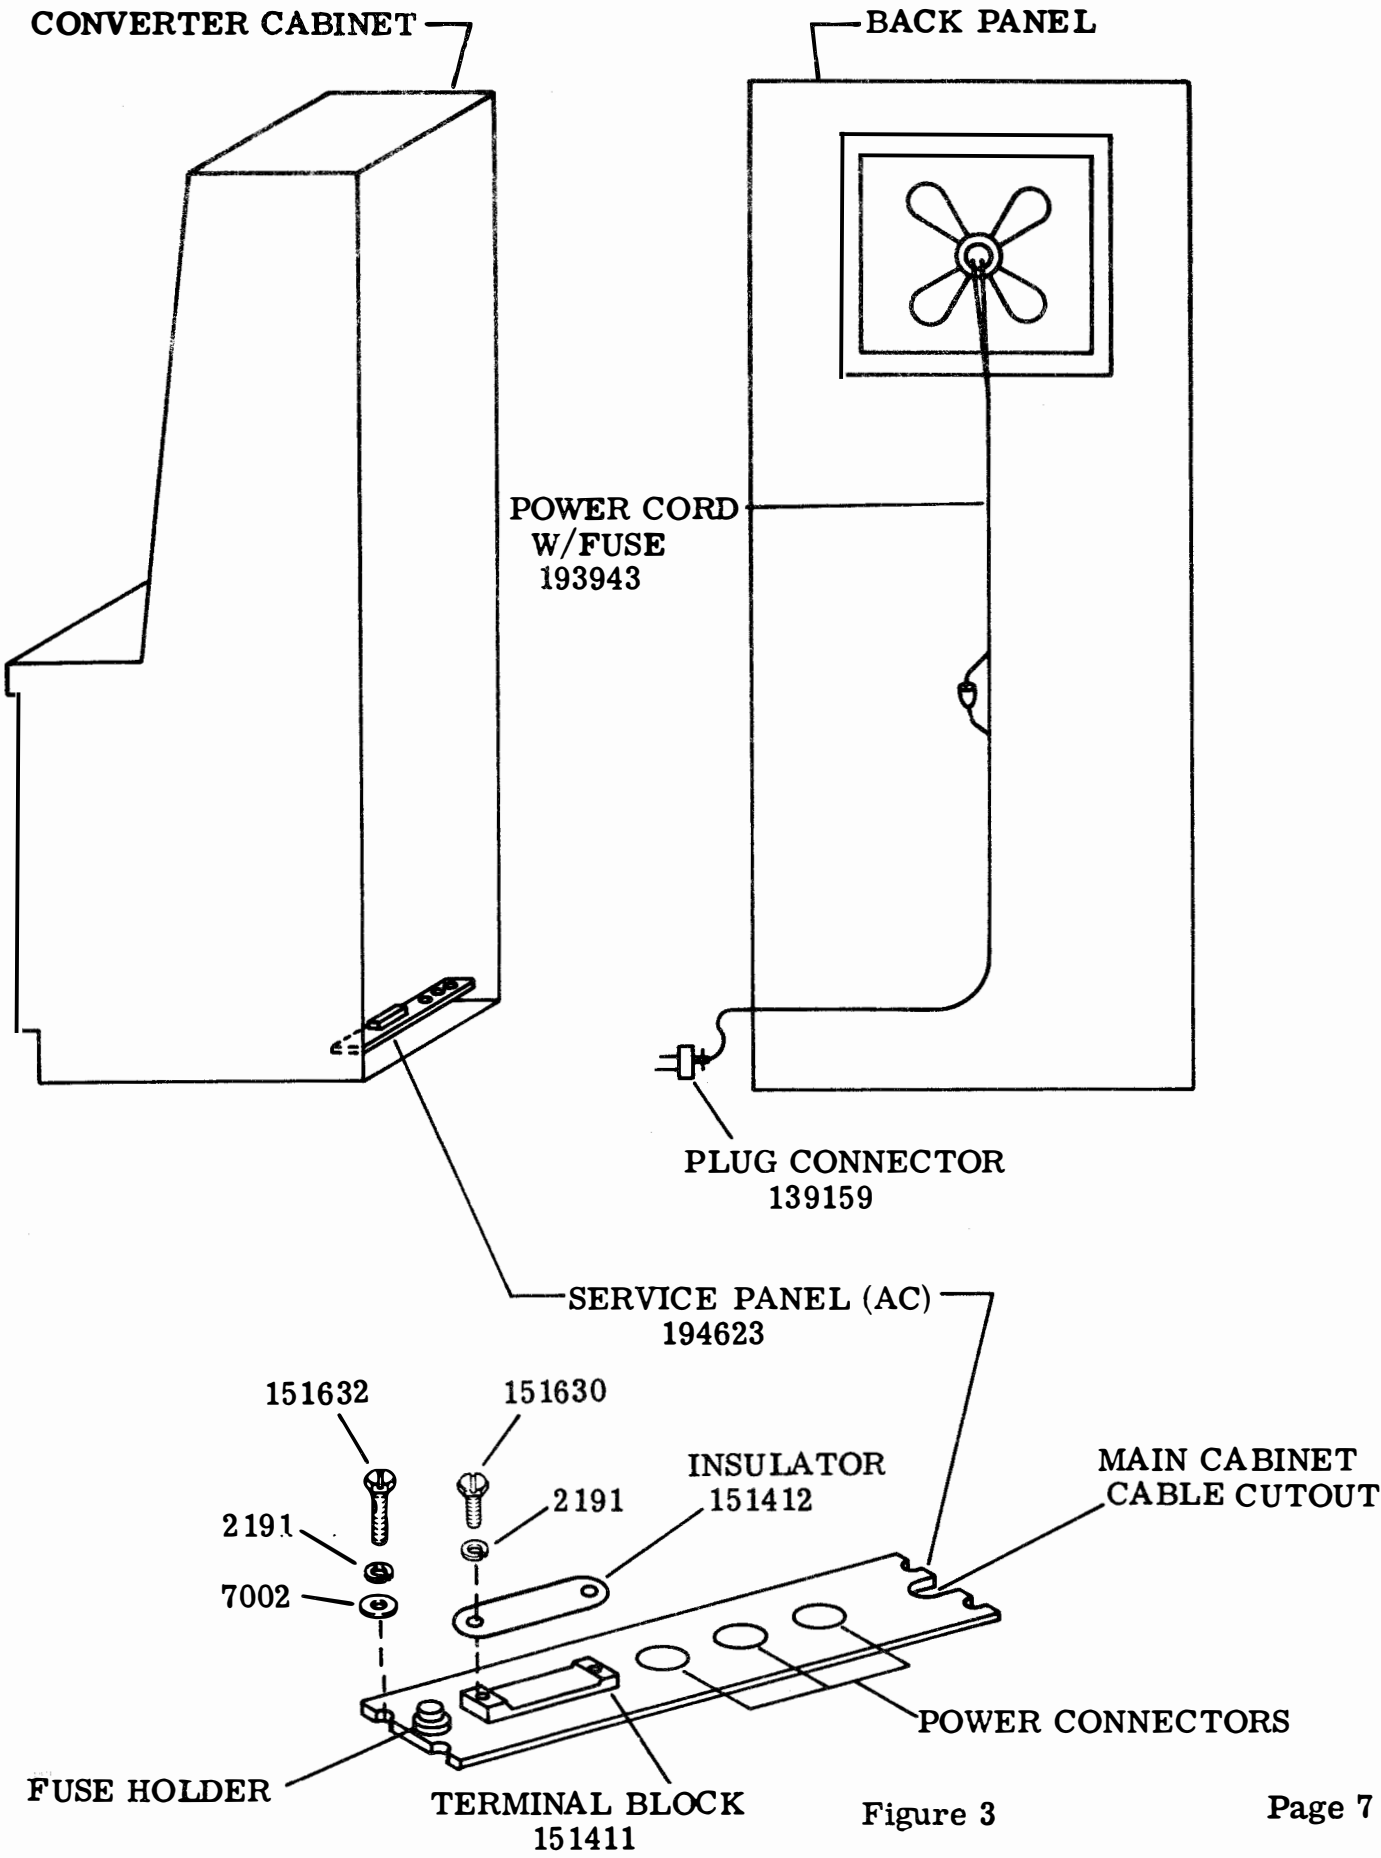

Figure 3
- (a) The service panel is located at the bottom rear of the cabinet. Refer to Figure 3.